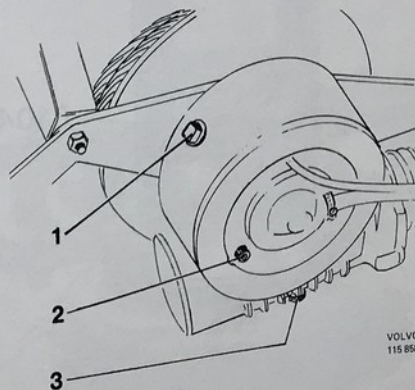

Fig. 92-24. Worm gear plugs
4. Engage the power take-off by turning the control switch forwards, see Fig. 92-24.
1. Drain the oil from the winch gear housing by removing the drain plug (3), see Fig. 92-24.